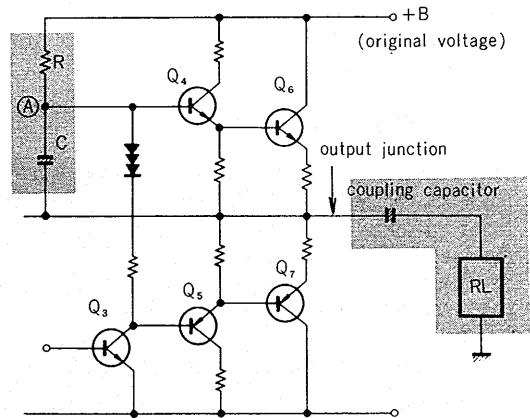

Fig. 1
A common drawback of conventional SEPP amplifier circuits is the occurrence of pulse noise when the power is turned on. The cause of this noise is the timing of the DC voltage distribution through the junctions in the circuit. The most important junction in this respect is the inner side of the output coupling capacitor. Fig. 1 shows a simplified, typical SEPP output stage. When the power is turned on, the original B voltage surges immediately, and this voltage simultaneously appears, through R at point (A). The time constant of this C/R network cannot be made as large as desired because it is part of the signal path. Therefore, voltage B appears almost instantly at the base of Q3, causing a sudden high pulse to appear at the junction point, and passing through the output coupling capacitor to the loudspeaker. This causes the starting pulse noise.